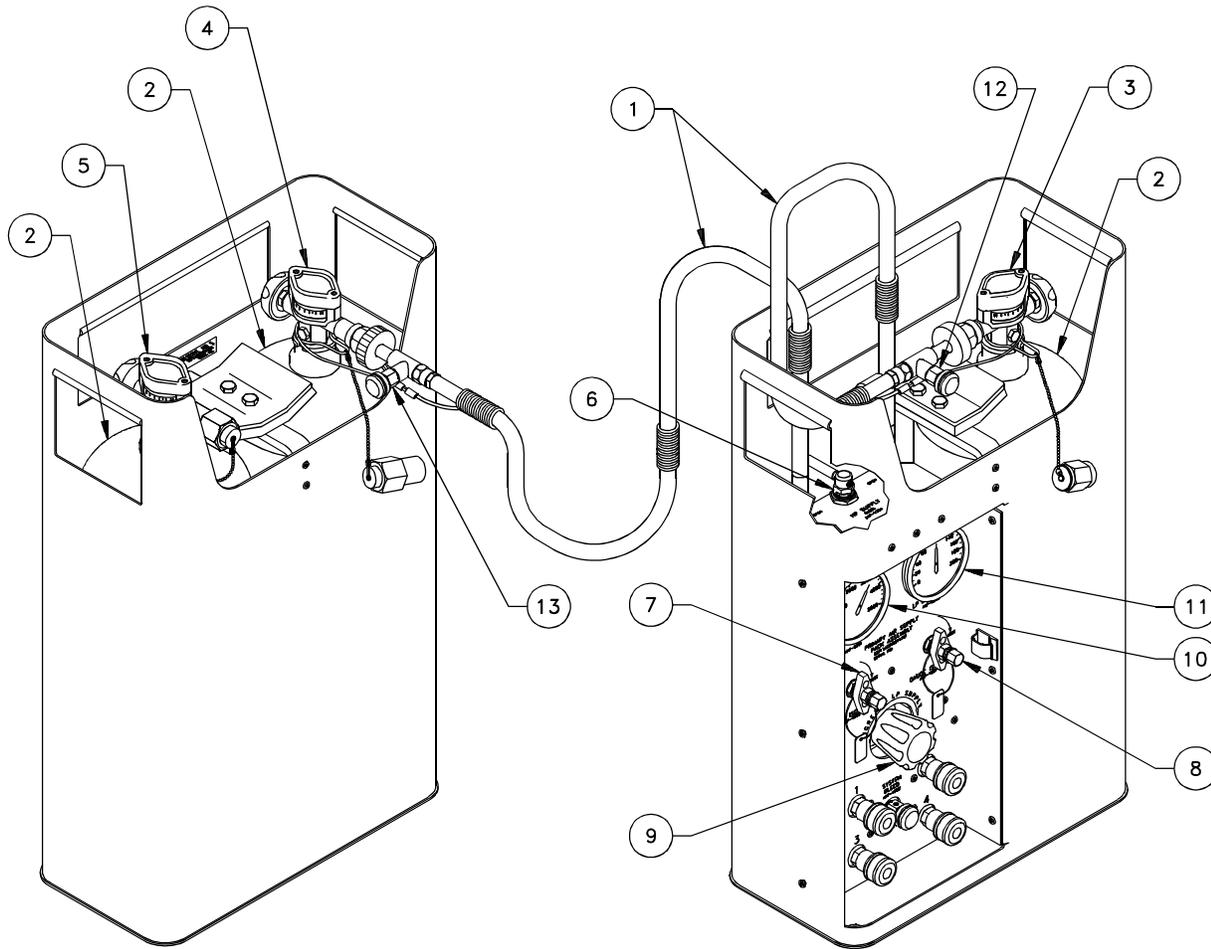

Figure 6-14. HP Air Hose Tightness Test
6.5.3.5 HP Air Hose Tightness Test (Figure 6-14).